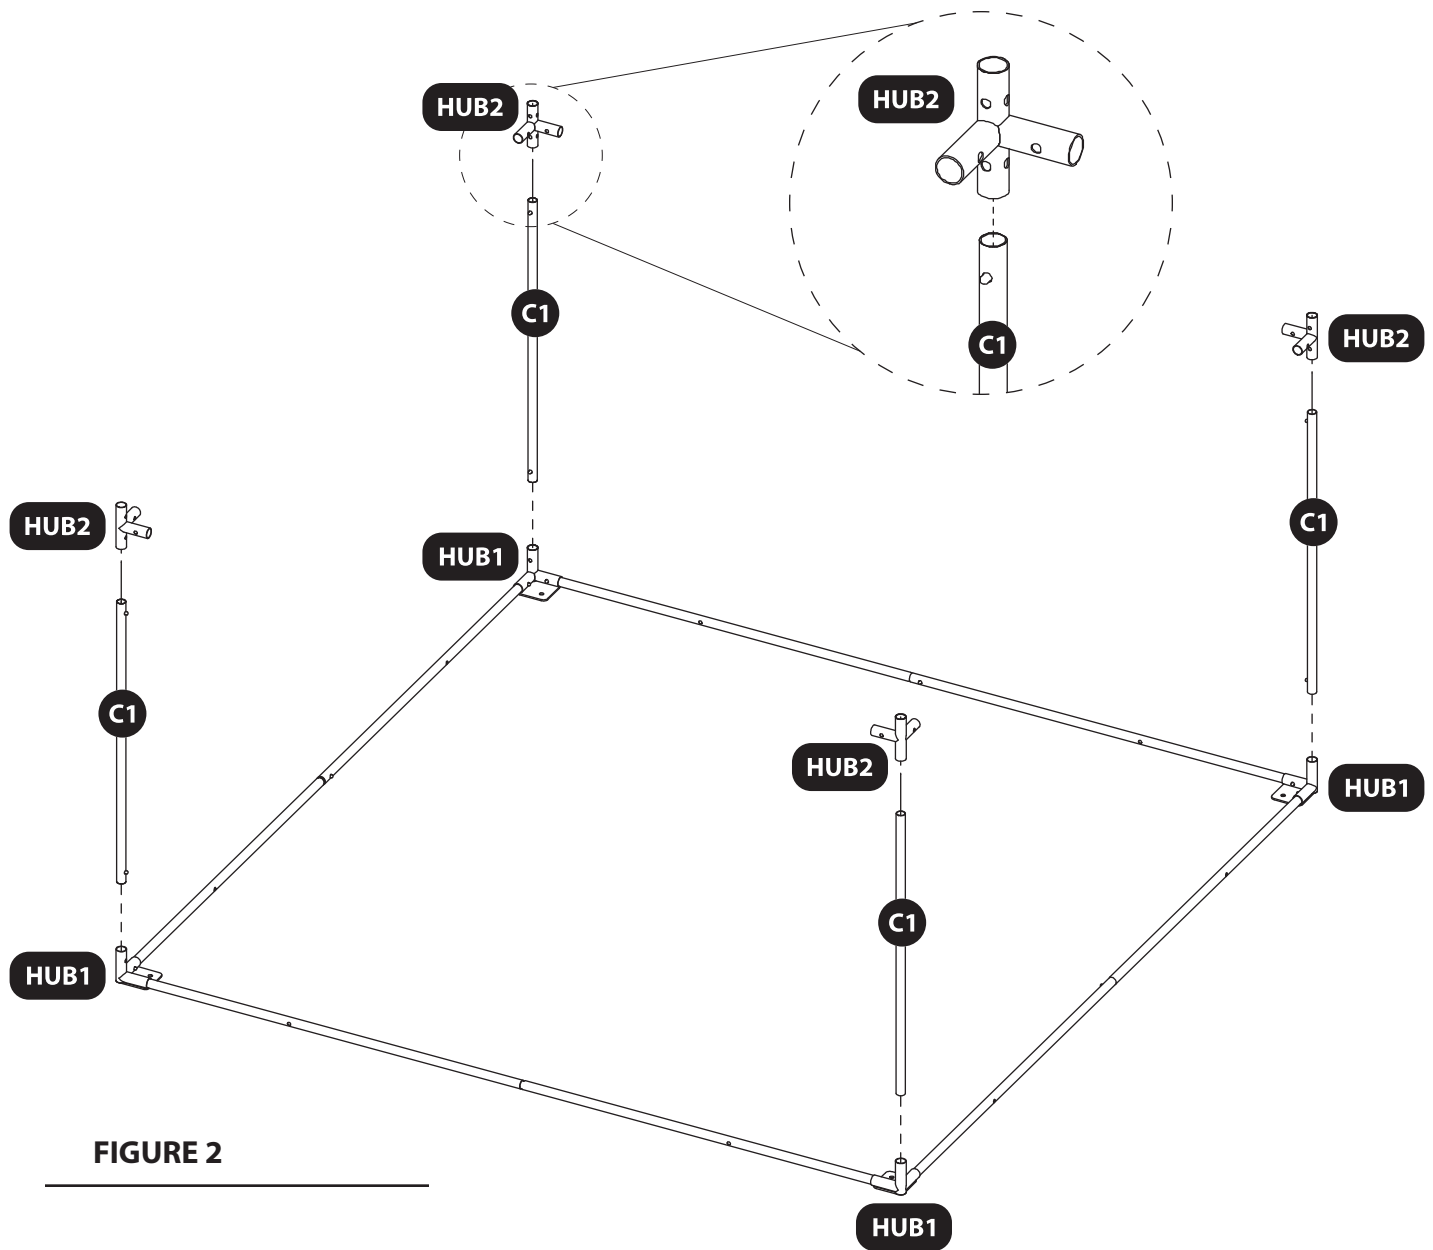

FIGURE 2
5. Slide the four C1 poles into the HUB1 corners so that the snap buttons secure pieces together. **SEE FIGURE 2.**
6. Attach the four HUB2 corners to C1 poles so that the snap buttons secure pieces together. **PAY ATTENTION TO ORIENTATION OF THE HUB2 CORNERS! SEE FIGURE 2.**